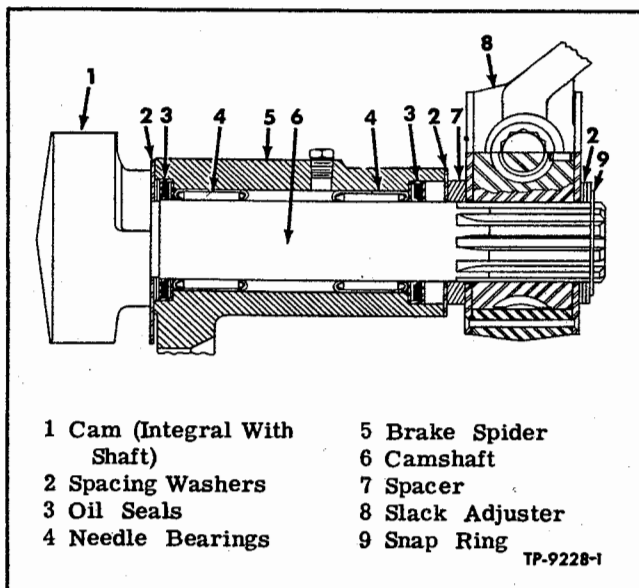

Figure 23—Front Brake Camshaft and Slack Adjuster Mounting
Front brake camshafts are mounted in needle type roller bearings in brake spider (fig. 23). Lubrication fitting in spider provides method of lubricating bearing. Lubricant is retained by seals which are pressed into spider.
4. To remove camshaft, (fig. 23), disconnect brake chamber push rod yoke from slack adjuster. Remove snap ring and washer securing slack adjuster on camshaft and pull slack adjuster off end of shaft. Pull camshaft out of brake spider, stripping spacing washers off shaft as shaft is removed.
2. Install large spacing washer on camshaft and insert camshaft through bearings in spider (fig. 23), being careful not to damage seals.
5. Place spacing washer and spacer over inner end of camshaft (fig. 23), install slack adjuster on camshaft, and secure with washers and snap ring. Connect brake chamber push rod yoke to slack adjuster, using clevis pin and cotter pin. Back off slack adjuster worm shaft until shoe rollers rest on lowest points on cam.